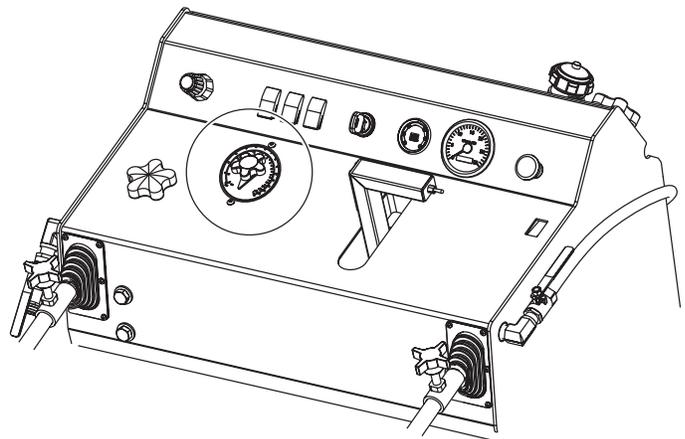

Figure 30. Depth Indicator
- Set the Depth Indicator dial to zero. (The Depth Indicator now accurately indicates how deep the blade is cutting.) (Figure 30)